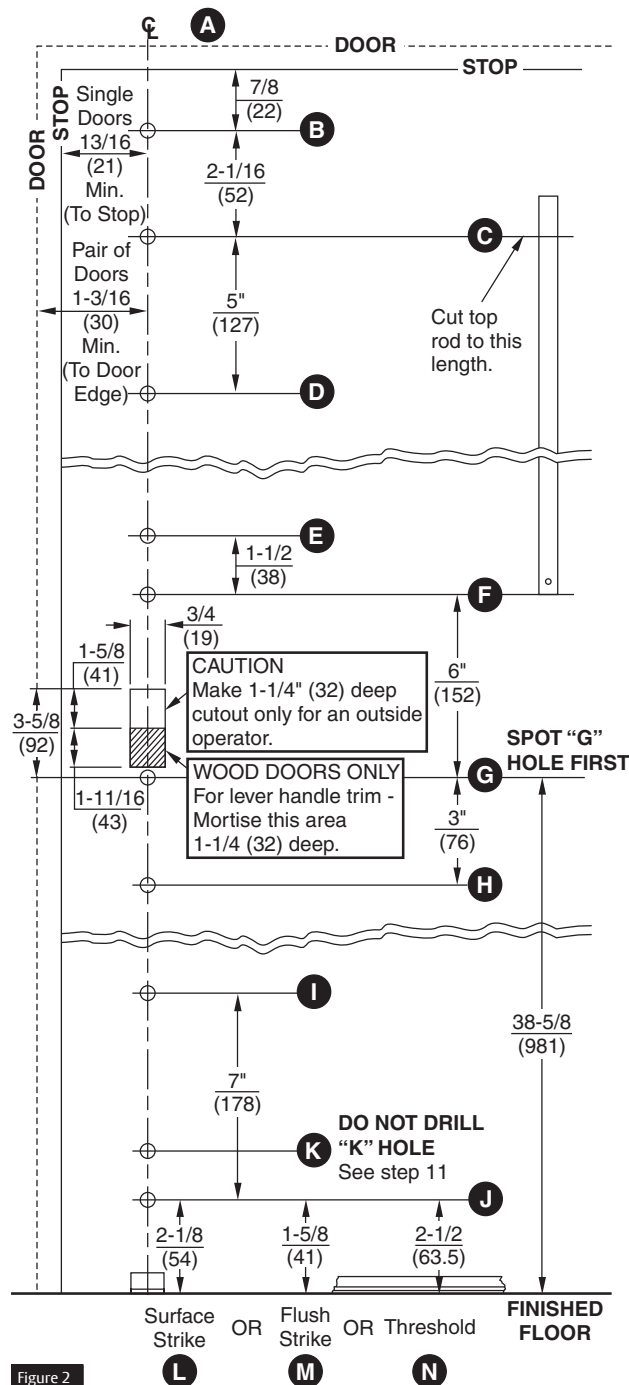

Figure 2
Spot and drill holes B to J for screws and sex nuts (as listed in screw guide - Figure 1 on page 2). (Figure 2) SPOT G FIRST.
1. Measure distance from bottom screw hole "C" of top latch case to top screw hole "F" in active case. (Figure 2 on page 3)
1. Install 4 top and bottom rod guides exactly on centerline. (D, E, H, I; Figure 2 on page 3)